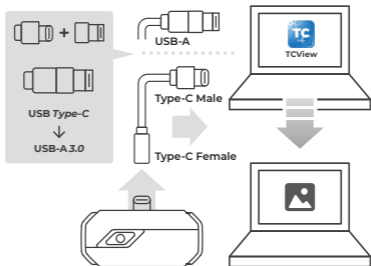

Figure 4.1.1
2. Connect the TC001 camera to a PC using the supplied adapter cable (see figure 4.1.1)